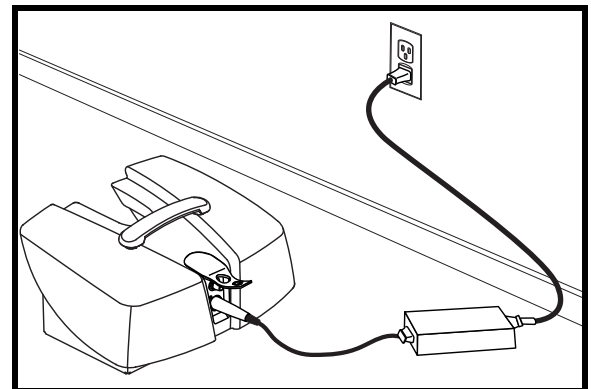

Figure 19. Battery Charging (Battery Box Removed)
2. Position the battery box next to a standard electrical outlet. See figure 19.